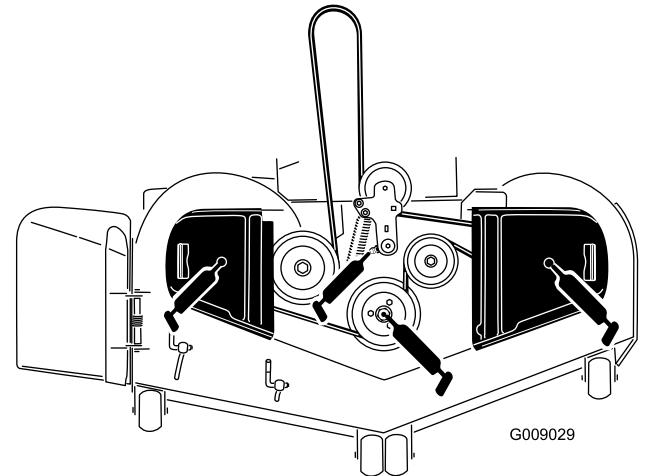

Figure 42
3. Grease the mower-deck idler pulley pivot until grease comes out the bottom (Figure 42).
4. If your machine has greasable spindles, grease the 3 spindle bearings until grease comes out the lower seals (Figure 42).